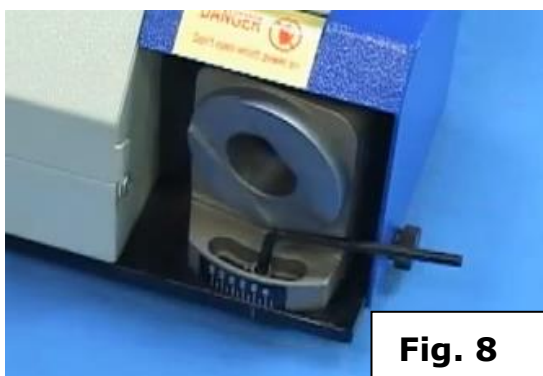

**Fig. 6**
- In this position the drill tighten the collet with the right hand in a clockwise direction. (Fig. 6)